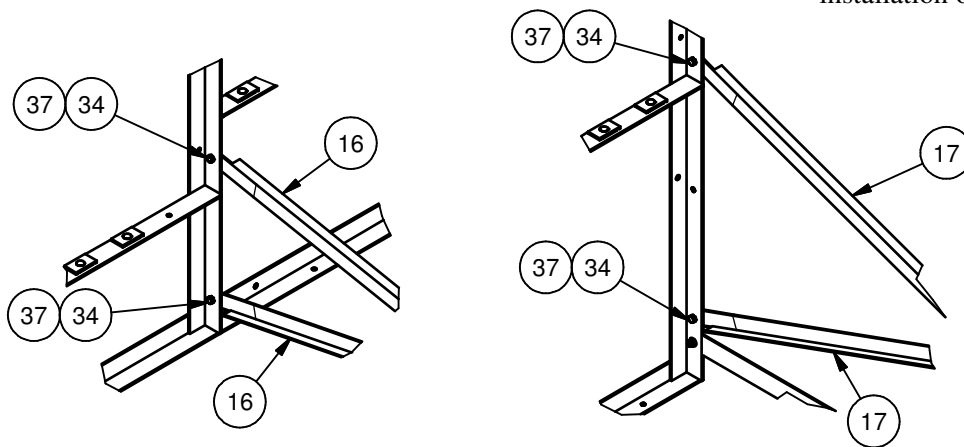

Figure 2
2. Lay out the Frame weldments approximately 6' apart. Install the brace sub-assemblies from step 1 using the 3/8" x 1" hex bolts and 3/8" whizlock nuts as shown in Figure 2. The short braces are connected to the vertical of row 3 and the long braces are connected to the vertical of row 5. After all braces are installed, square the frame and make sure the front of the frame is in line.